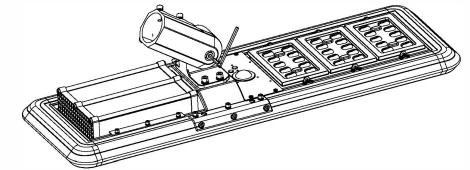

Figure 4
4. Use a 10MM hex wrench to tighten the angle adjustment screw. (Figure 4)